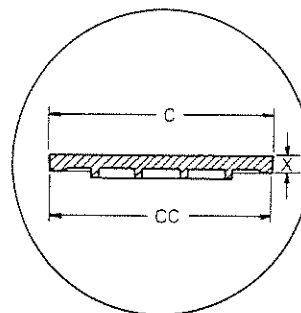
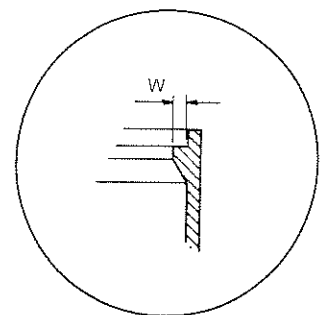

FIGURE 1
FIGURE 2
Specify Pattern Number for cover being replaced, if available. Also, include complete cover dimensions - C, CC, & X (See Figure 1). CAUTION - Existing frame seat, dimension W, must be a minimum of one (1) inch in width for “Flow-Seal” cover to properly seal. (See Figure 2).